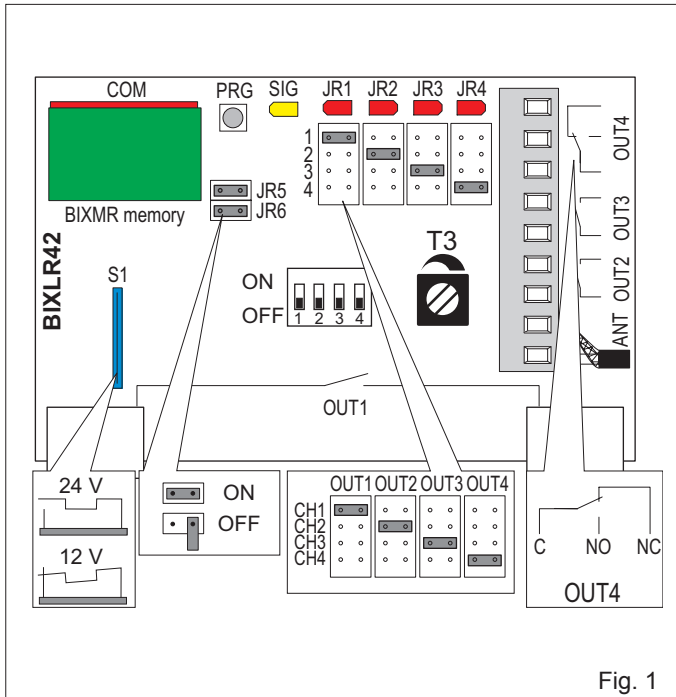

Fig. 1
2. RICEVITORE (fig. 1)
3. SELEZIONE CANALI-USCITE (fig. 1)
2. RECEIVER (fig. 1)
3. SELECTION OF CHANNELS-OUTPUTS (fig. 1)